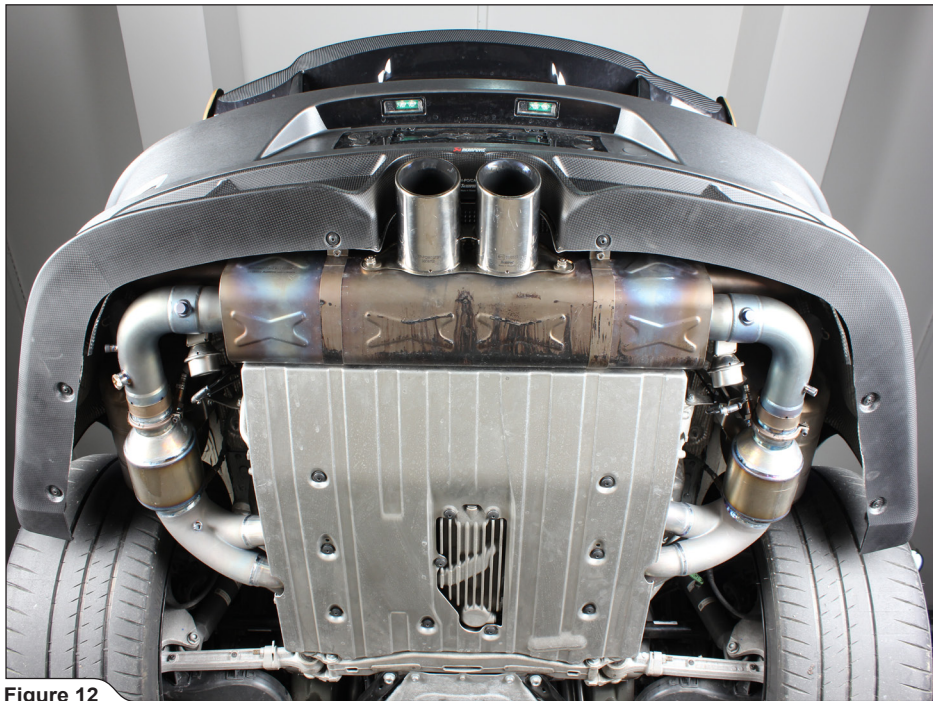

Figure 12
2. Replace all dismantled stock parts (tail lights and bumper) in the reverse order from the order in which they were removed. Check vehicle manufacturer manual for tightening torques (**Figure 12**).